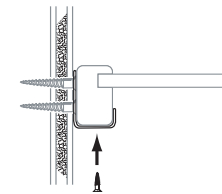

FIG. 1.8
- Secure shelf to all L-Hooks using #4 3/4" screws (Fig. 1.8)